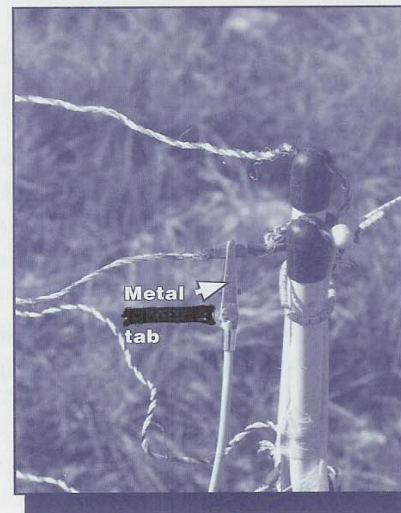

Figure 9—Connect the clips on the leads from the energizer to the hot wire (shown) and ground wires of the fence.
9. Electrical wires clip to metal tabs crimped on the fence mesh near the end post (figure 9).